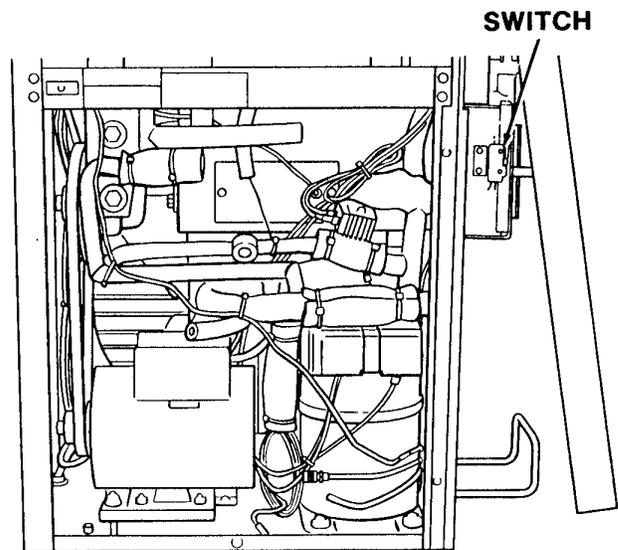

Figure 54. Interlock Switch Removal
5. Move the sheet metal forward to expose the switch (Figure 54). The sheet metal is sealed to the evaporator with silicone, be careful not to bend the sheet metal when moving it forward.
6. Remove the two electrical wires from the interlock switch (Figure 54).